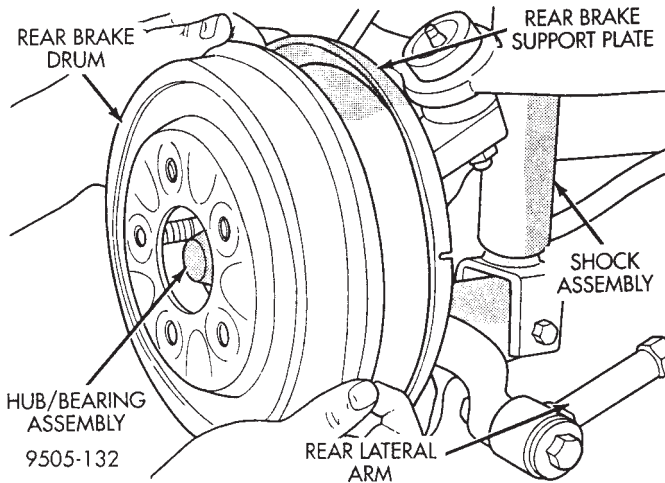

Fig. 78 Rear Brake Drum
- (1) Raise vehicle on jackstands or centered on a frame contact type hoist. See Hoisting in the Lubrication and Maintenance section of this manual for the required lifting procedure to be used for this vehicle.
- (2) Remove rear wheel and tire assembly.
- (3) If installed, remove brake drum retaining clips from wheel studs and discard.
- (4) Remove the brake drum (Fig. 78) from the rear hub/bearing assembly.
- (3) Install the rear brake drum (Fig. 78) on the hub/bearing assembly.
- (4) Install rear wheel and tire assembly on vehicle. Tighten all wheel stud nuts in criss cross pattern to one-half the specified torque. Then repeat pattern, fully tightening the stud nuts to a torque of 129 N·m (95 ft. lbs.).
- (5) Lower vehicle.